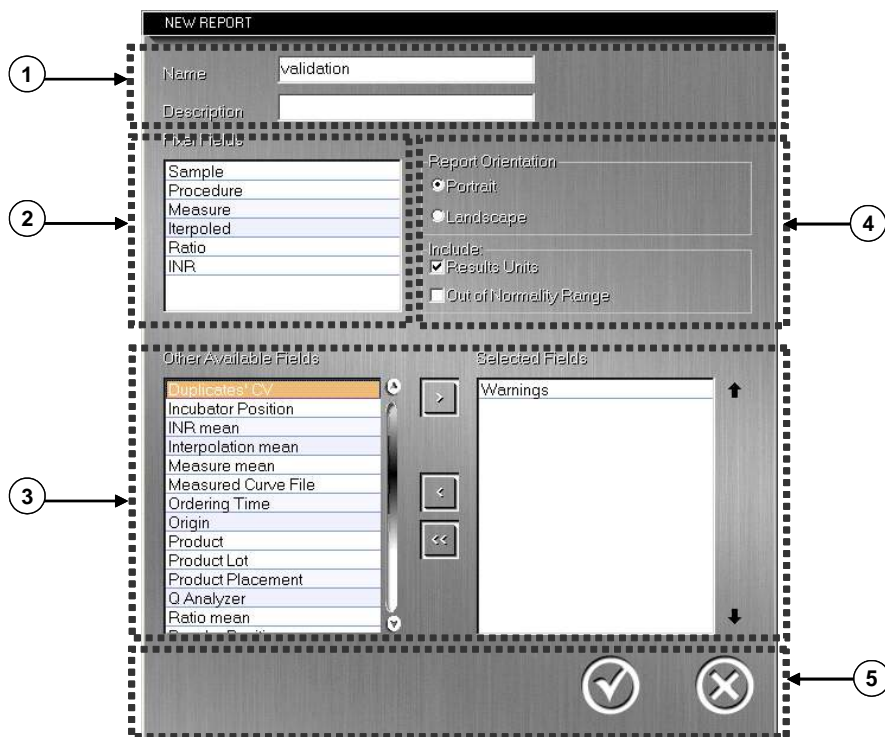

Figure 9.37. New Report Window
- Press the **New Report** () button. The program offers the **New Report** window as shown in Figure 9.37.